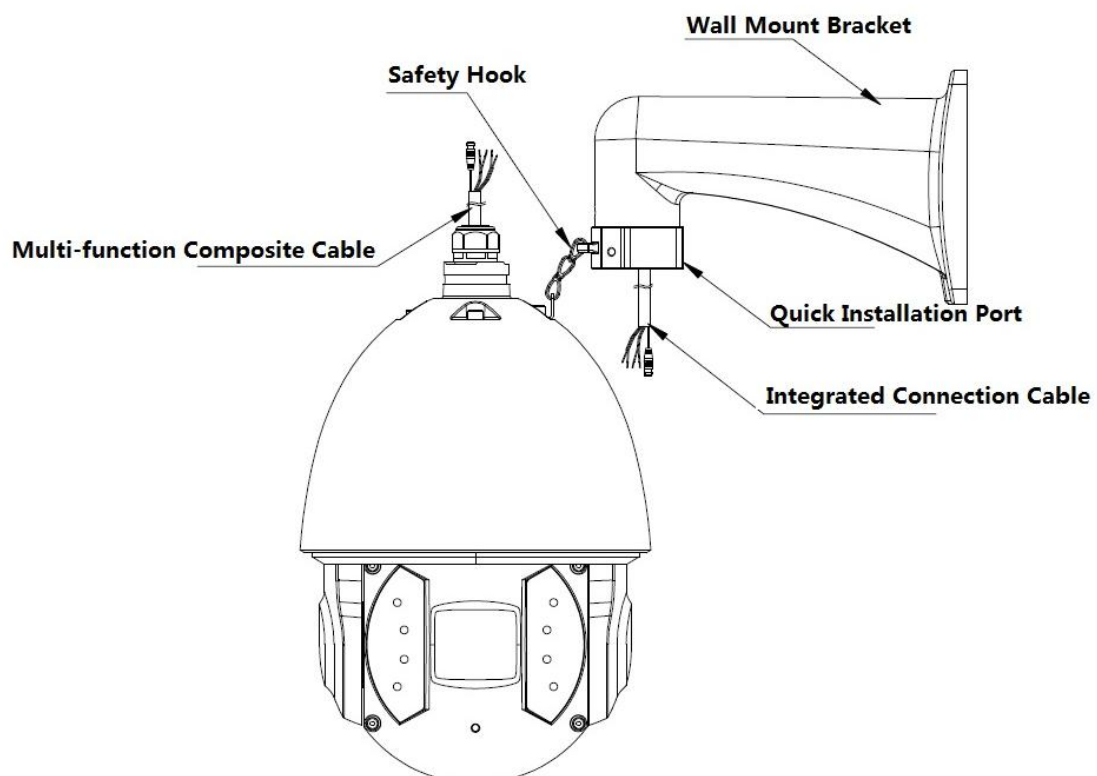

Figure 1-12
- Connect the reserved integration cable of the wall mount bracket to the corresponding power cable, video/audio cable, RS485 control cable, alarm port, high frequency cable, fiber cable (if necessary) of the multiple-function composite cable of the IR speed dome. Paste the insulating tape in the connection position to do the proper waterproof work. See Figure 1-12.